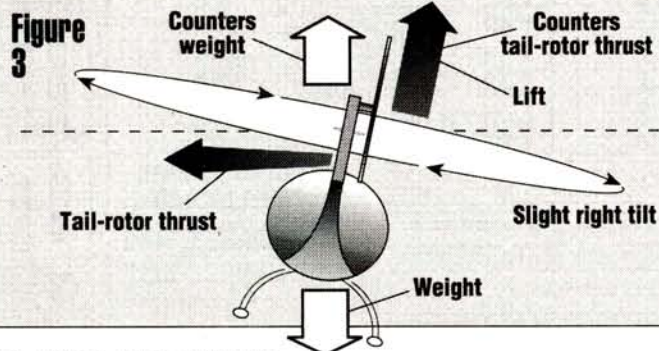

Figure 3
- **Figure 3** is a view of the helicopter from its tail to its nose. We still see the lift going up (again, countered by the weight going down) and the thrust of the tail rotor pushing left to counter the torque of the main rotor blade. In this view, however, we can see that, without an opposing force to counter the tail-rotor force, the helicopter would "drift" to the left rather than remain in a stationary hover position. This is why helicopters must hover with a slight right bank; part of the lift must be tilted to the right to counter this tail-rotor force. (If you were hovering